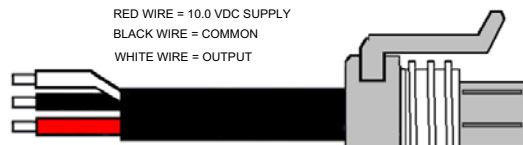

FIGURE 4 - WIRE HARNESS ASSEMBLY
5. Attach wiring harness assembly plug to transducer. See Figure 4. Route sensor wires back to VLT6000 enclosure.